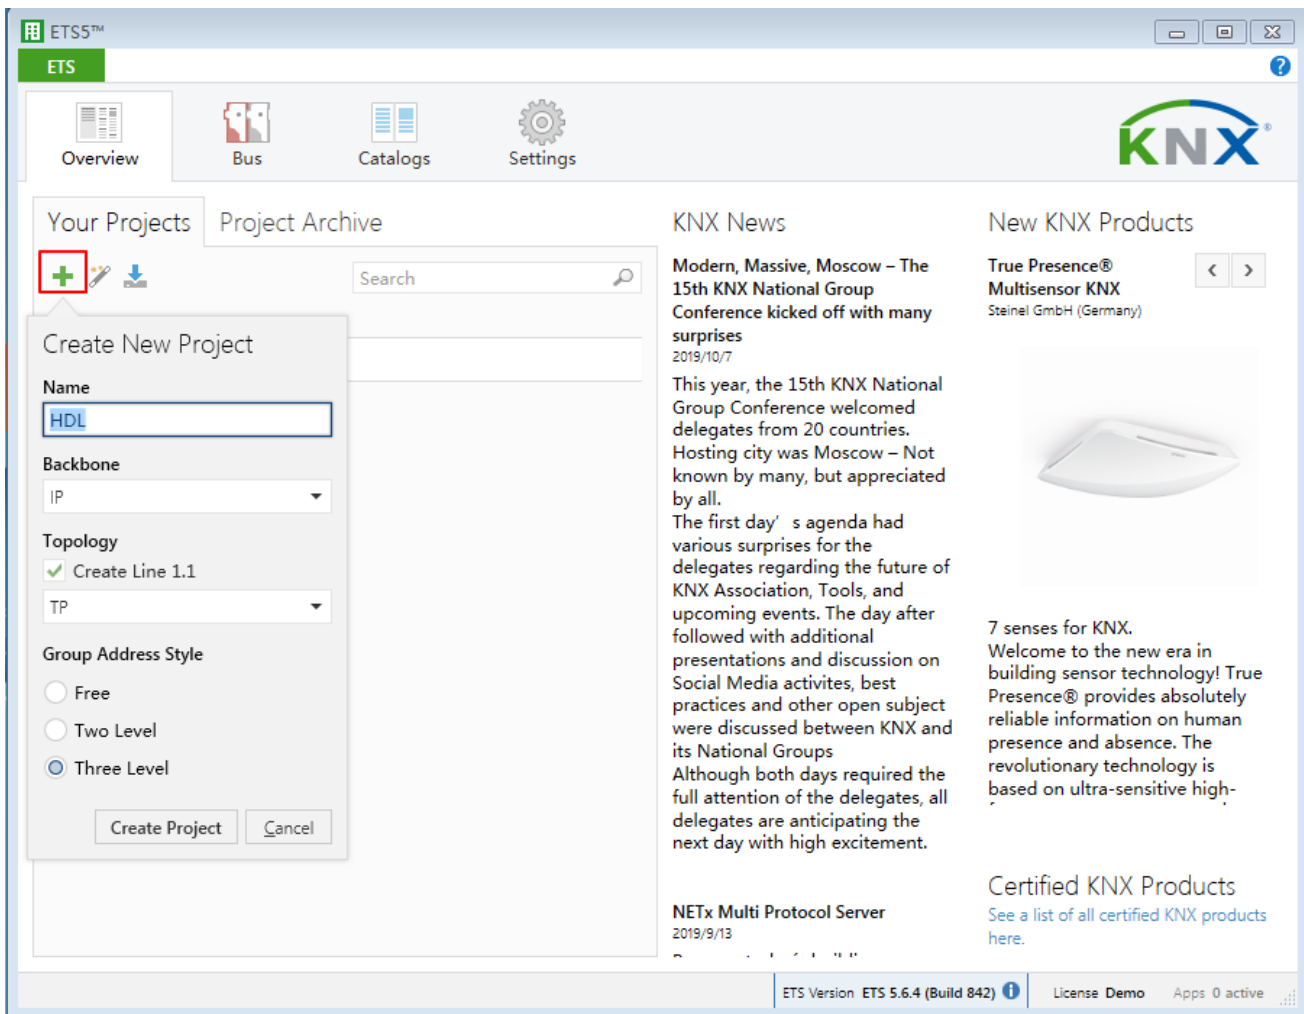

Figure 1-2 Create projects
- 2. Create Projects:** as shown in Figure 1-2, in “Your Projects” tab from ETS5 software’s “Overview” page, click “+” to create projects. After editing project name, please keep other default setting items.